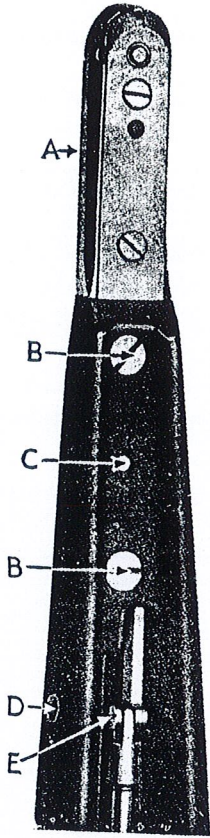

Fig. 21.
Remove the machine head from the treadle stand or power bench by taking out the four screws. The machine head should now be tipped up and supported with the horn in a vertical position, the underside facing the adjuster. Parts can be examined or removed from the rack box by taking out the two screws (F) and removing the cover plate. The following parts are then exposed: long rack (J), short rack (K), intermediate pinion (L), shuttle driving pinion (H), needle plate locating pin and spring (M), all of which can be removed without disconnecting the rack box from the machine. To take out the shuttle carrier, remove the small set screw in the shuttle carrier pinion by inserting a small screw driver through the groove (G) at the side of the rack box. The shuttle carrier can then be pressed through the pinion. To remove the long rack, insert a screw driver through the hole (D, Fig. 21) and take out the screw. Before proceeding to withdraw the rack, remove the pinion (L), then grip the rack and draw it in a straight-away manner towards the pulley end of the machine. The short rack (K) and shuttle driving pinion (H) can be removed without difficulty. When replacing any one or re-assembling the whole of these parts, care must be taken to see that the gears and racks are correctly enmeshed, as shown in the illustration (Fig. 20).
Instructions for the Removal of the Rack Box (See Fig. 21)